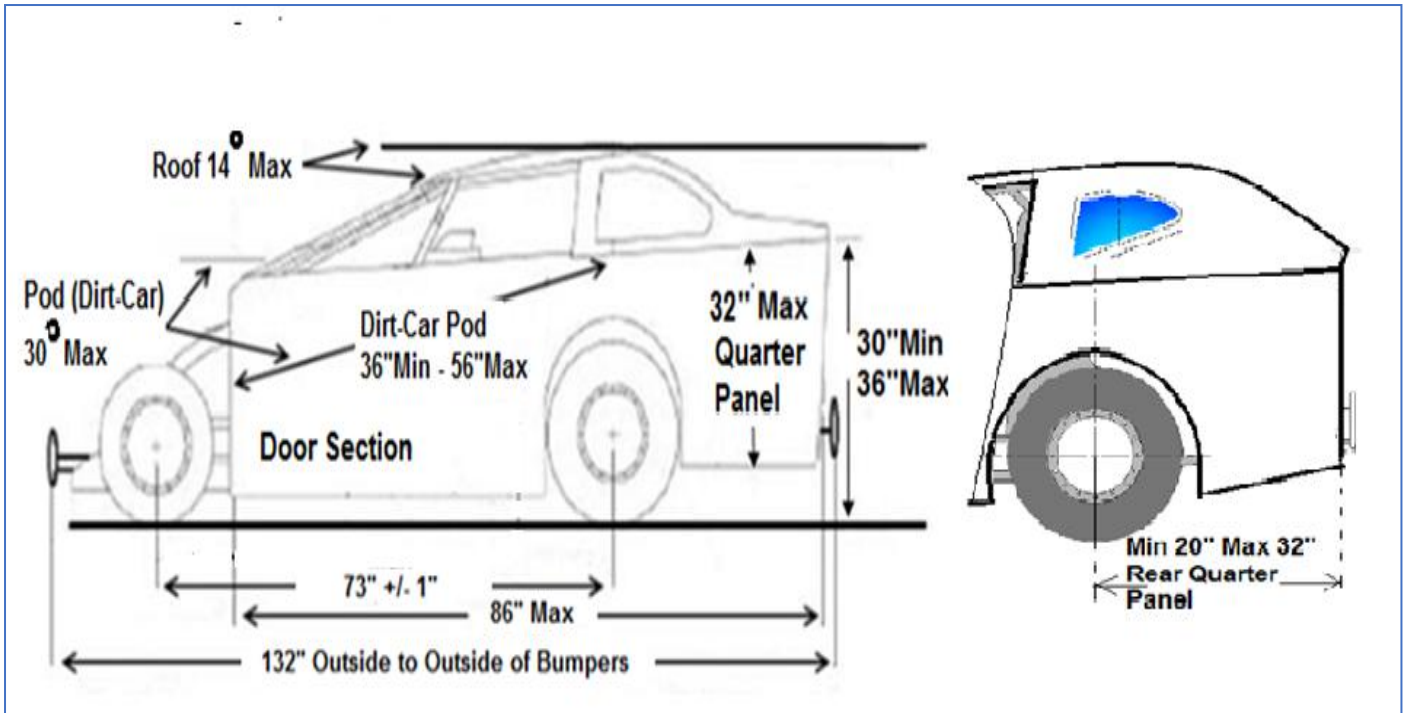

Figure 3
**6.9** A wheelbase length of 73 inches (+ or -) 1 inch is allowed and must not be exceeded. When measuring the wheelbase, the front tire must be aligned with the rear tire and the measurement taken from the centre of front hub to the centre of the rear hub (*Figure 3*).
7.6 Front of door section to the rear most point of the quarter panel — 86 inches max length (*Figure 3*).
7.7 Side height of the top of rear quarter panel (deck lid) to the ground --- 30 inches min, 36 inches max (*Figure 3*).
7.8 Max height of quarter panel 32 inches (*Figure 3*).
7.11 Rear quarter length from centre of rear hub to rear of quarter panel must be 20 inches min, 32 inches max (*Figure 3*).
**9.2** No part of roof panel may have more than 14 degrees angle of rake relative to the frame rail (*Figure 3*). No deflector of any type on upper side of panels or rear of roof panel.